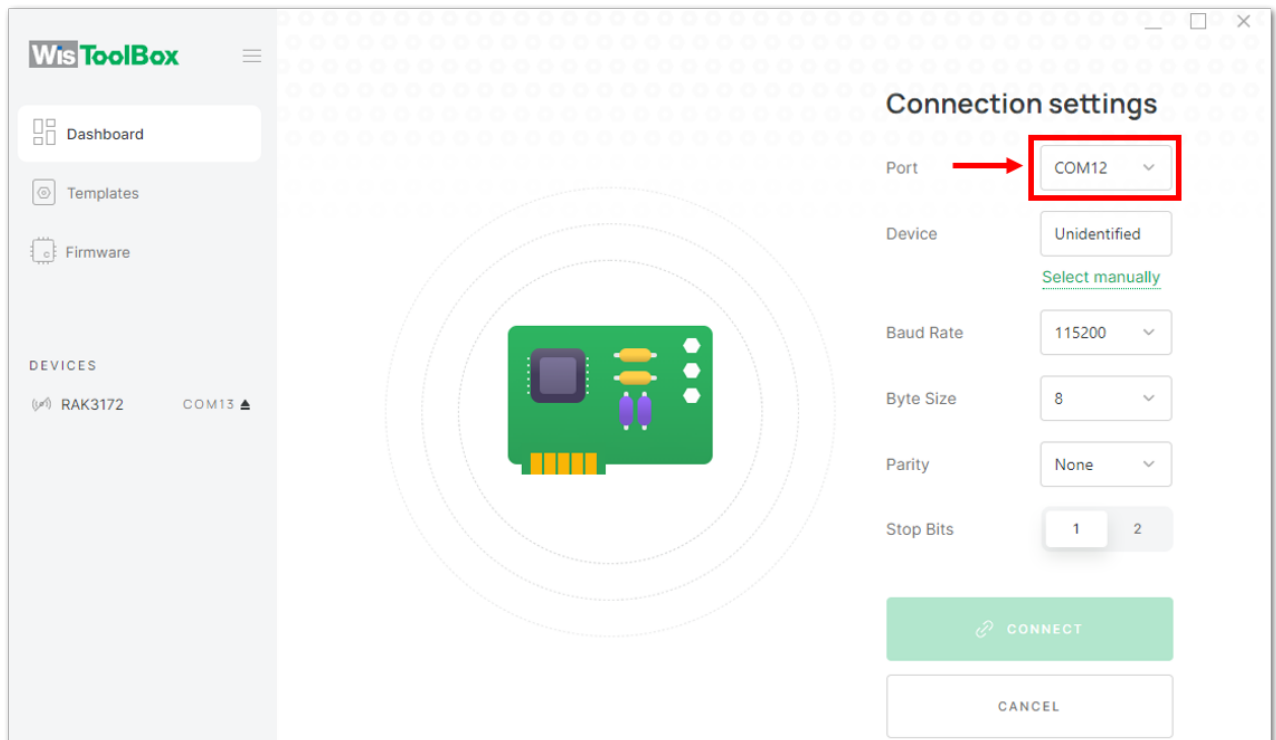

Figure 60: Setting up your device
3. Then select your target port where your **RAK3172** is connected. Once recognized, click **CONNECT**, as shown in **Figure 60**.